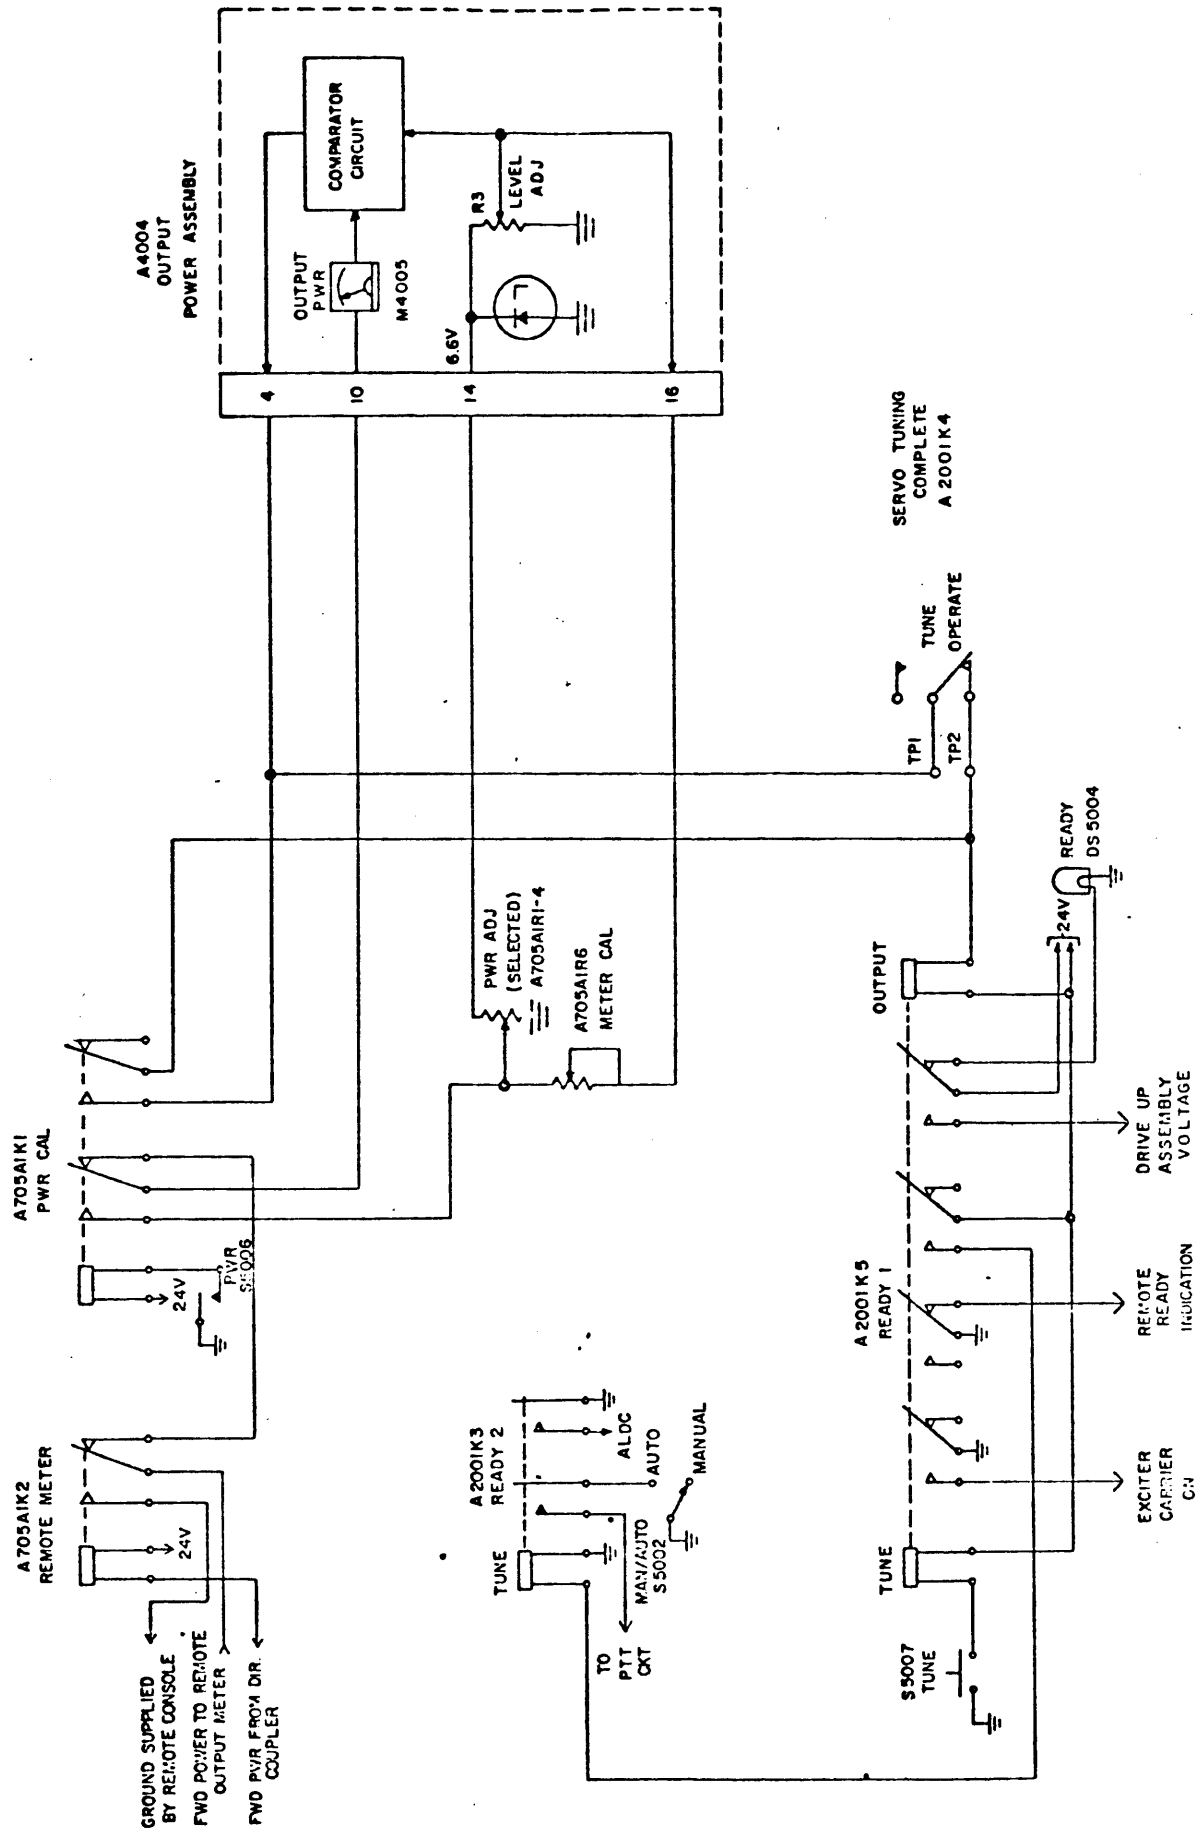

Figure 4-6. Functional Diagram, Power Level and Output Control
j. TUNING COMPLETE AND OUTPUT LEVEL. (See figures 4-6, 4-10, 7-1, 7-2, 7-3, 7-4 and 7-6) When the load capacitor A703C1 completes tuning the 28 vdc load servo on voltage appearing at pin 3 of the PA load assembly A703, is routed through closed sets of contacts on the low deenergized motor control relays A703A2K1 and A703A2K2, and appears at pin L of the load assembly. The voltage is then routed to pin 7 of the tuning control assembly A2001 and applied through a one-half second time delay A2001CR3 to latch the servo tuning complete relay A2001K4 in the operate mode. Contacts 14 and 15 of the servo tuning complete relay open, removing the IPA cathode input to pin 1 of the drive-up comparator assembly A1005A1. Contacts 8 and 9 open, removing a ground that was applied to
#### 4-9. AUTOMATIC POWER LEVEL (See figures 4-6, 7-1, 7-3, 7-4 and 7-7)